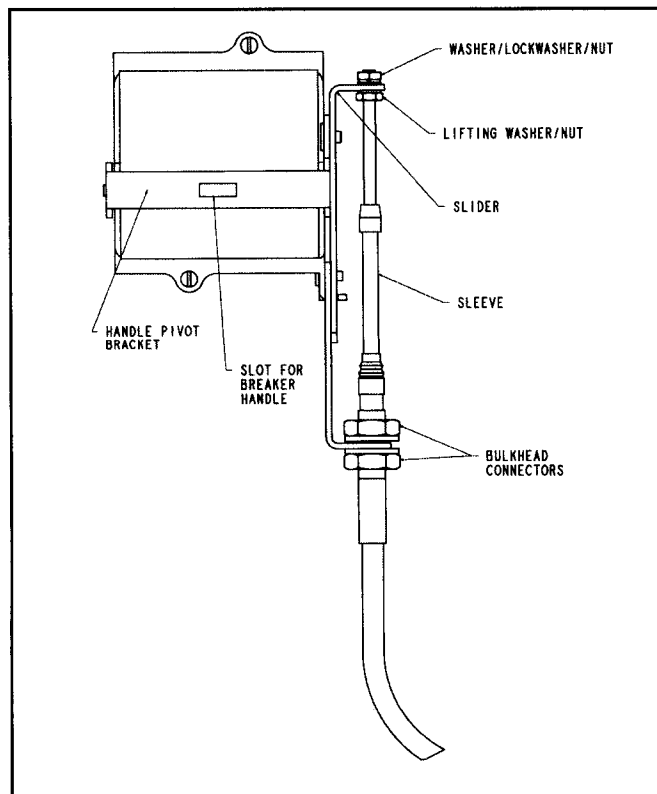

Fig. 1-3 H-Frame Actuator Mechanism
The Flex Shaft handle mechanism provides a means of externally operating the circuit breaker and can be applied to enclosures of varying heights and depths. The handle can be used with NEMA 1, 3R, 4, 4x, and 12 enclosure applications, depending on the accessory components selected. An operating handle, flexible shaft, and mechanism are required for standard application. Eight lengths of shafts are available for use with the wide range of depths of various enclosures (3' through 10'). When selecting the length of the Flexible Shaft, ensure Minimum Bending Radius of 4 inches is maintained to operate properly. The standard method of shipment includes the mechanism preset at the factory. If minor field adjustments are required, see Fig. 1-3. For this publication, the term circuit breaker shall also include the molded case switch and motor circuit protector (HMCP).
In the event a customer must disassemble the preassembled Flex Shaft handle mechanism, the procedure listed below must be followed before continuing with the "Installation" instructions. (See Fig. 1-3).
- H. Check operation of mechanism for ON, OFF, and reset. Check the reset position of the actuator mechanism, that the lifting nut and sleeve of shaft do not come in contact with each other (see Fig. 1-3). If they do, move bulkhead connectors accordingly. If mechanism functions incorrectly, repeat procedure or go to Adjustment Checklist.
Loosen the lifting washer/nut while tightening the washer/lockwasher/nut, two or three turns should be sufficient (see Fig. 1-3).
**Note:** Check the reset position of the actuator mechanism, so that the lifting nut and sleeve of shaft do not come into contact with each other (Fig. 1-3). If they do, move bulkhead connectors accordingly.
Loosen the washer/lockwasher/nut on the end of the shaft while tightening the lifting washer/nut until breaker turns on with positive action. Tighten both nuts and recheck for ON, OFF, and Reset positions (Fig. 1-3).
**Note:** Be certain after adjustment to have a minimum of 1 thread past the washer/lockwasher/nut assembly (Fig. 1-3).